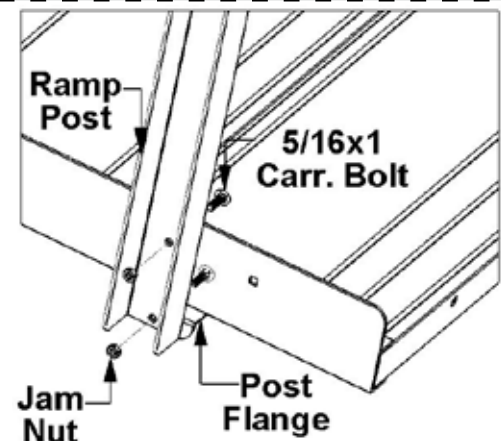

Fig.4.4
4.2 Ramp Post Attachment: Attach handrail after an entire ramp run has been spliced together. First, layout all ramp handrails along the sides of the ramp run. Starting with the shortest ramp section, attach the double post handrail assembly. Attach each post by aligning the bottom post hole to the post flange hole then run a carriage bolt through both holes and fasten with a jam nut. Next run a carriage bolt through the ramp frame and ramp post and fasten with a jam nut (**Fig.4.4**). *Note: to align top set of holes, complete post to flange attachment first then hold ramp post with one hand and apply downward pressure to run carriage bolt through with the other hand.*